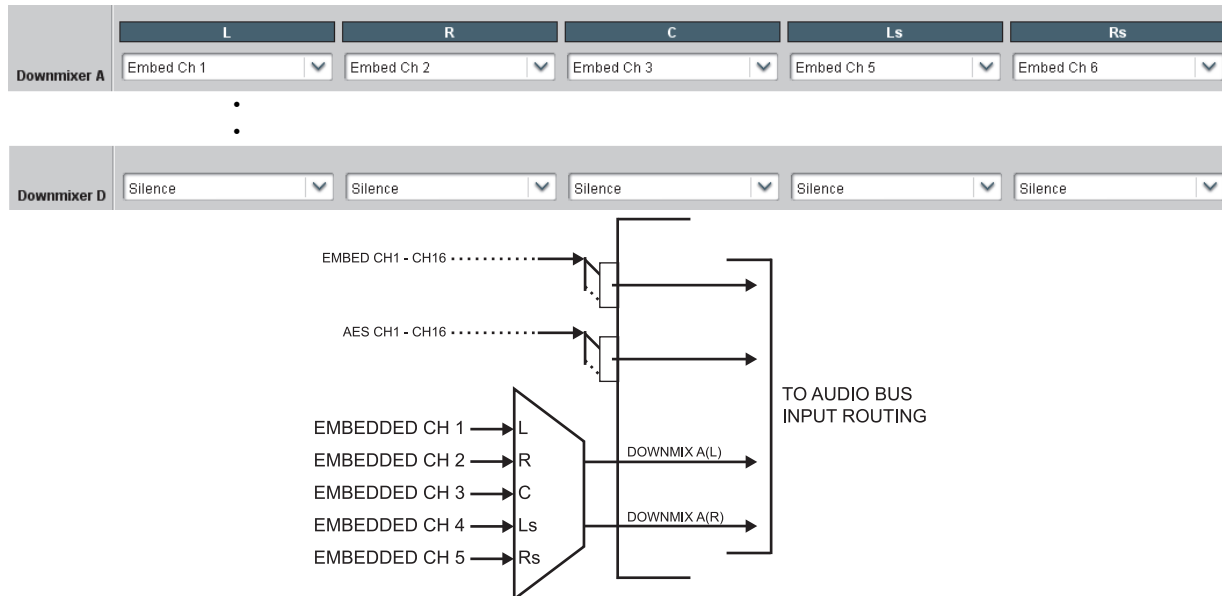

Figure 5.7 Input Downmixers Example
Figure 5.7 shows selection from various sources and the resulting stereo pair Downmix A(L) and Downmix A(R). The two signals comprising the pair can be routed and processed the same as any other audio input source. Note that the stereo pair consists of basic L/R PCM signals with no additional encoded information.